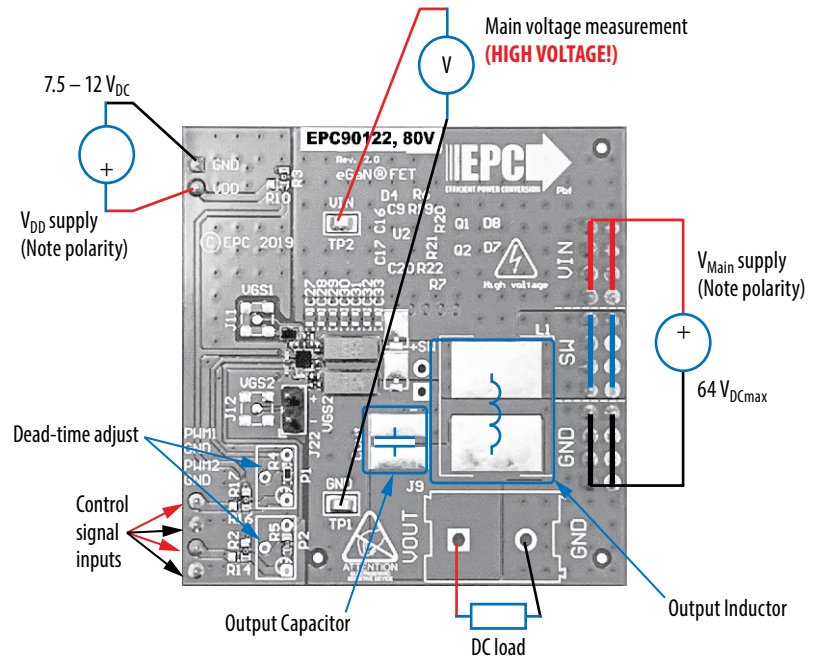
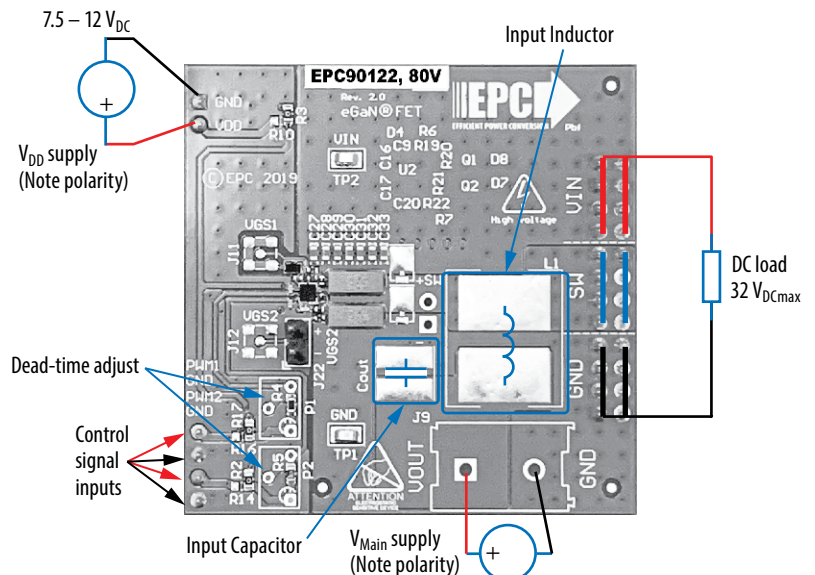

Figure 2: Buck configuration
Figure 3: Boost configuration
The half bridge development board EPC90122 is easy to set up as buck or boost converter. Refer to figure 2 for buck converter configuration and measurement setup, and figure 3 for boost converter setup, and follow the procedure below:
2. With power off, connect the switch node (SW) of the half bridge to your circuit as required (half bridge configuration). Or use the provided pads for inductor (L_1) and output capacitors (C_{OUT}), as shown in figure 2 with a DC load connected across V_{OUT} and GND.
1. The inductor (L_1) and input capacitors (labeled as C_{out}) can either be soldered onto the board, as shown in figure 3, or provided off board. Anti-parallel diodes can also be installed using the additional pads on the right side of the EPC2206 FETs.